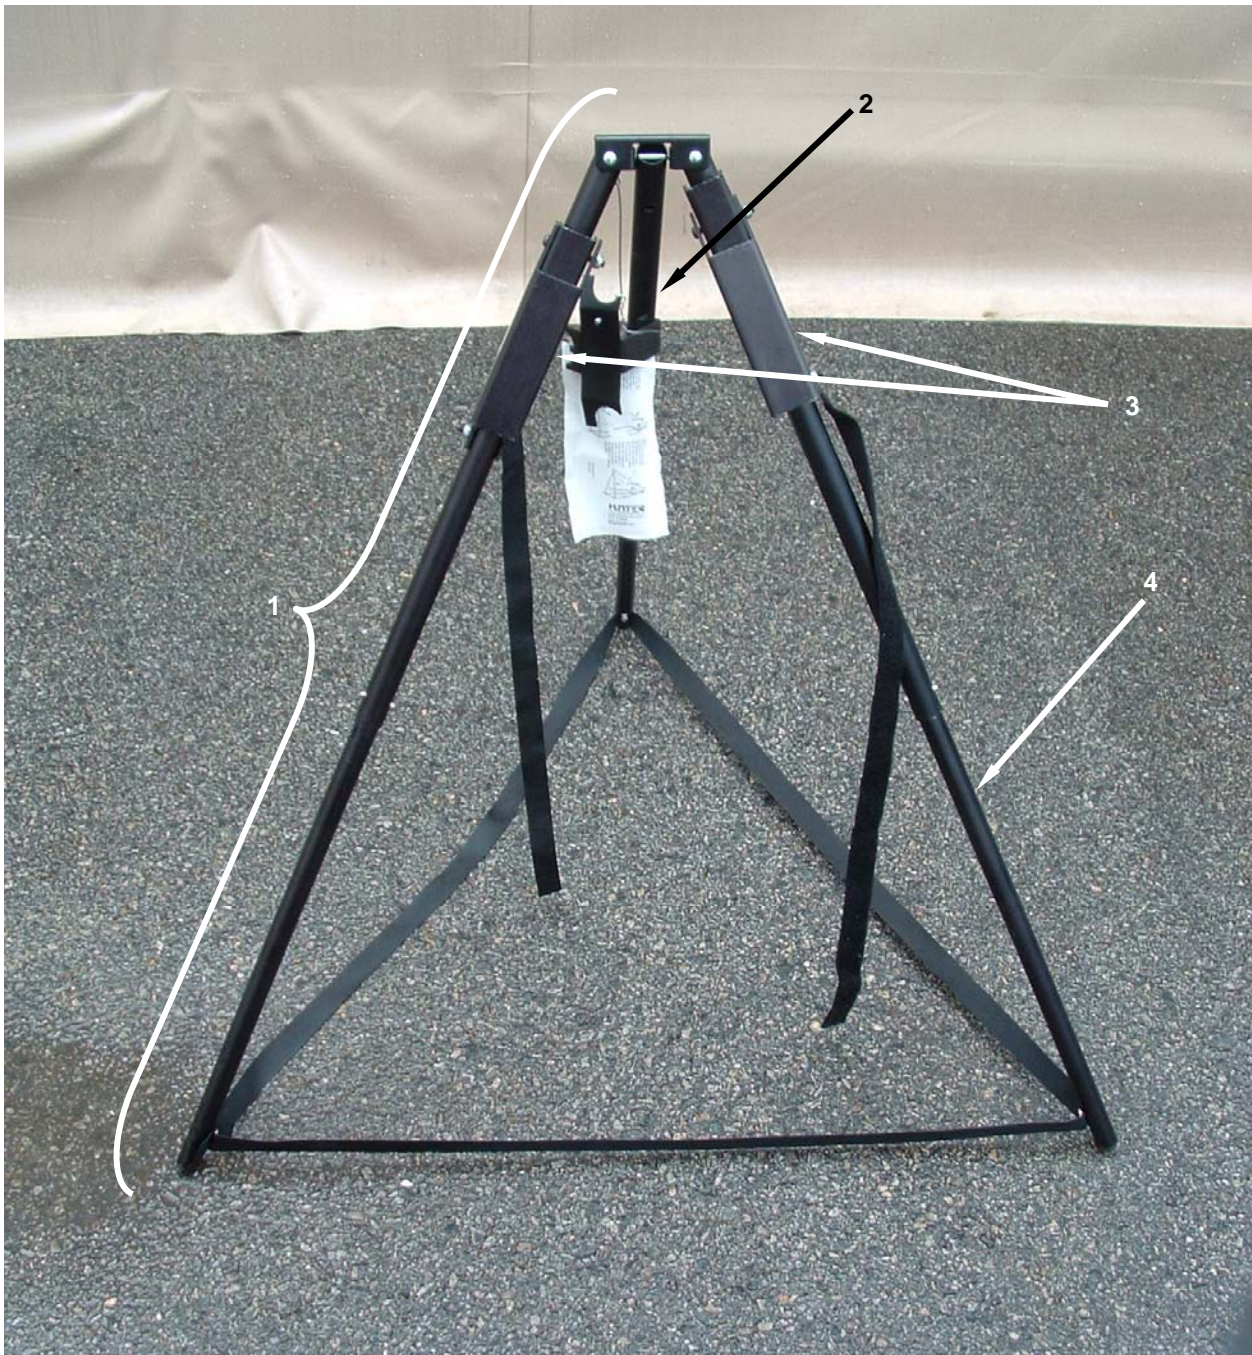

Figure 19. Prepare for Movement – Disassemble Fuel Can Stand.
31. Disassemble the fuel can stand (**Figure 19, Item 1**) by removing the clip (**Figure 19, Item 2**), raising the two support arms (**Figure 19, Item 3**), and separating the lower legs (**Figure 19, Item 4**) from the upper portion of the stand. Place both the lower and upper sections of the stand together and wrap the straps around the stand to secure.